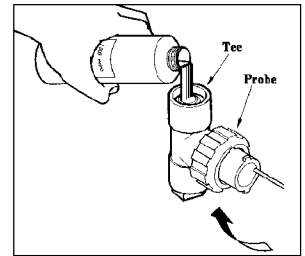

FIGURE 12
4. Close isolation valves and relieve pressure on the system by opening the sample valve. Remove and place sensor into the sample container with distilled or deionized water for a value of zero (0) to enter as the "LOW" calibration point in the following procedure (see fig. 12). If deposits or fouling is present, clean sensor per instructions in Section 10, Maintenance, pg. 48.